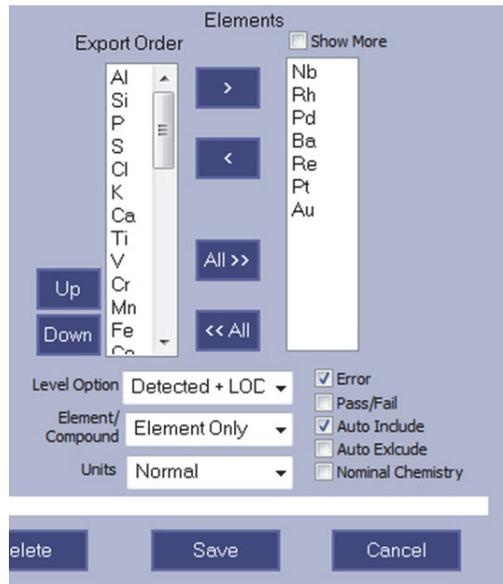

Figure 1-32 The Elements area
- In the **Elements** pane, select elements and move them from the box under **Show more** to the **Export Order** list using the left arrow (). These are the elements that will be exported (see Figure 1-32 on page 27).